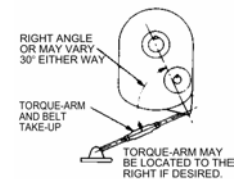

Fig. 4
7. Install torque arm fulcrum on a rigid support so that the torque arm will be approximately at right angles ($\pm 30^\circ$) to the center line through the driven shaft and the torque arm anchor screw. (See Fig. 4.) Make sure that there is sufficient take-up in the turnbuckle for belt tension adjustment when using V-belt drive.